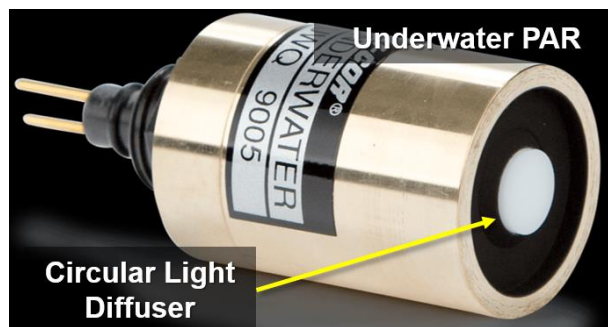

Figure 40. Underwater PAR Circular Light Diffuser
9. The underwater optical sensors are sensitive and require a special cleaning procedure to remove biofouling from the circular light diffuser (see Figure 40). As a rule, handle the PAR sensors with care; as a rule, do not use a dry brush on any of the optical sensors on the buoy (the two PARs, PSQ1 and NR01).